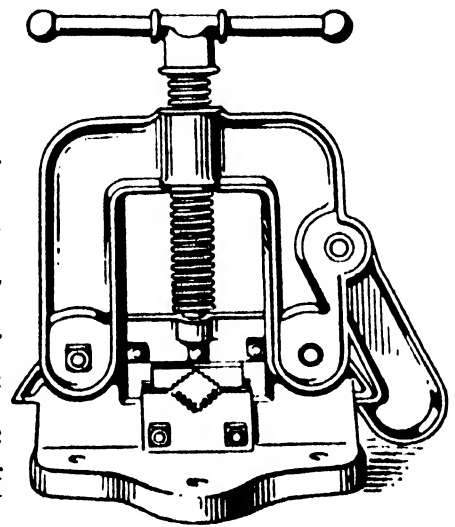

FIG. 99.
**The Pipe-vice.**—The pipe-fitter demands a very strong vice to hold pipes while he operates on them, but a strong vice would be useless without a secure anchorage for it. The Reed vice shown in Fig. 99 is the best possible tool; it is very powerful, being made of malleable iron, and very light to porter. A 6 in. vice weighs only 48 lbs. against the open-sided vice's 136 lbs. for the